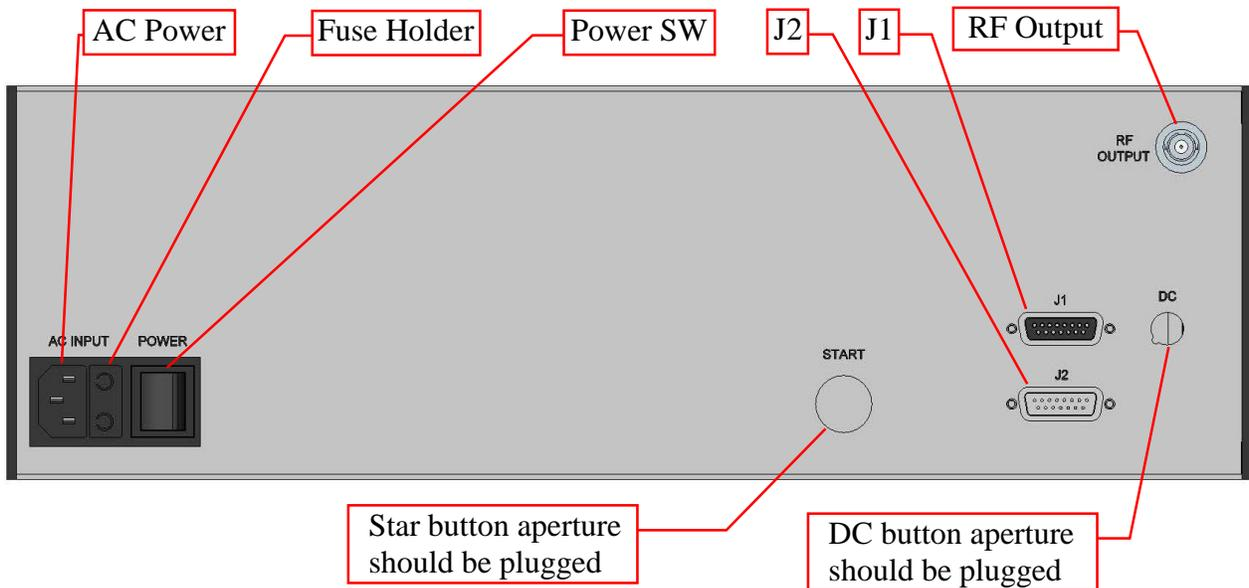

Figure 2.2 3800 RF generator, rear panel
- 2.3.2. Connect the coaxial cable from the sealing head to the BNC port (RF Output) on the generator. See Figure 2.2.
- 2.4.1. Switch the power switch to ON (|). See Figure 2.2